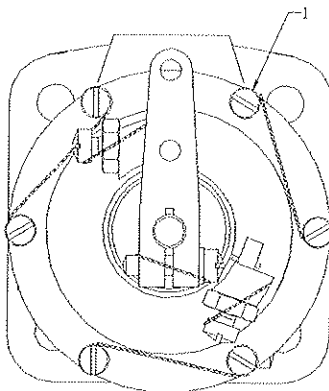

Fig No. 4
5.6.a Control head / lever adjustment (see Fig. No. 4)